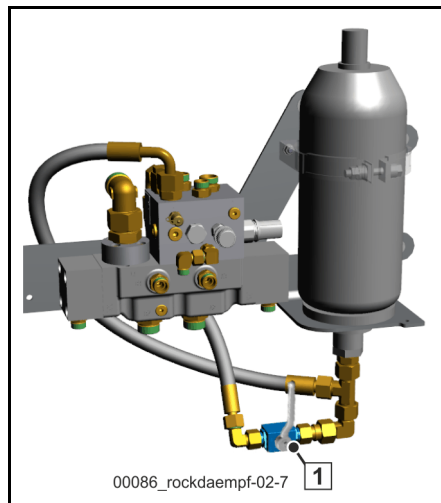

Fig. 512 Rock valve damping
- Move the ball valve (1) (**Fig. 512**) into a vertical position in order to enable Soft-Shift function a).